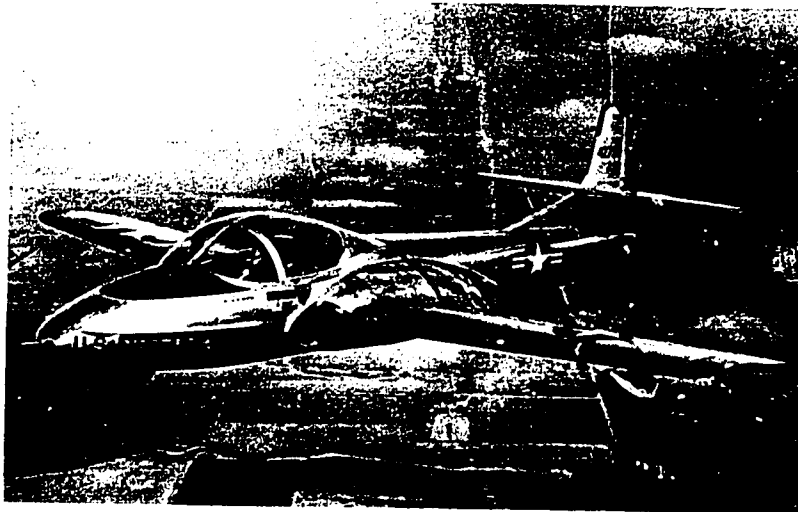

Figure 52. JET TRAINER—Cessna T-37 (see also Figure 60.)
2. The Cessna T-37, (affectionately called the "Twecety Bird"), a twin turbojet, one of the lightest turbojet aircraft made. It weighs 6,600 pounds and has a wingspan of 35 feet. It has a speed of 350 mph and a ceiling of 35,000 feet. Its engines are rated at 1,050 thrust pounds each. It has seats for student and instructor side by side (Fig. 52).